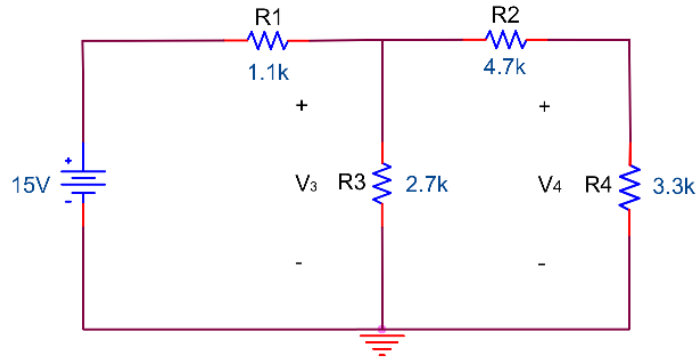

Figure 3.10
2. Construct the circuit in Figure 3.10. Measure V_3 and V_4 using the DMM. Calculate the percent error.